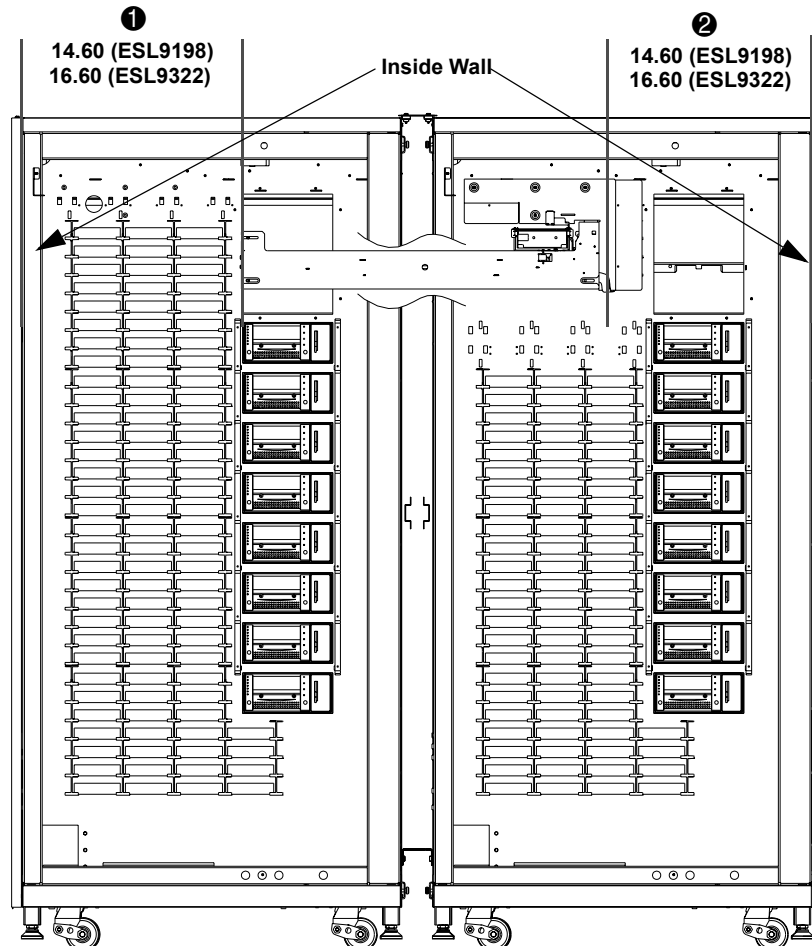

Figure 16: Centering the PTM (ESL9198 shown)
After the PTM assembly has been installed in the libraries, it must be centered to operate correctly. For ESL9198 and ESL9322 libraries, center the PTM between the libraries inside the walls as shown in Figure 16. The distance between the inside wall and the PTM in the left library ❶ and the distance between the inside wall and the PTM in the right library ❷ should be 14.06 ± 0.06 inches in an ESL9198 and 16.60 ± 0.06 inches in an ESL9322.